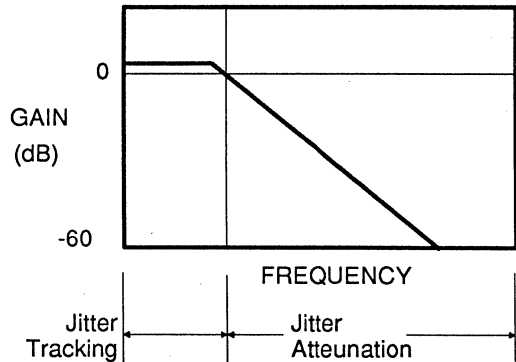
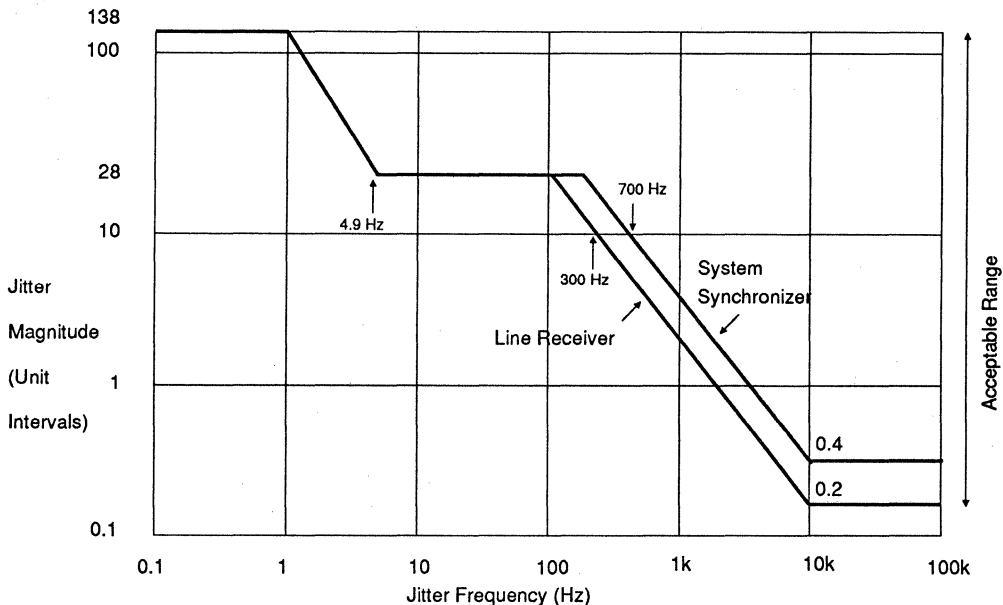

Figure 6 - Jitter Transfer of PLLs
Figure 8 - 1990 AT&T 62411 Jitter Tolerance Requirement
- 4) Excessive Input Jitter amplitude (Figure 8).
Due to the characteristics of the phase-lock loop technology used in trunk cards and system synchronizers, jitter can be more readily filtered than can wander (Figure 6). Normally, most wander which is input on a timing reference source will be relayed to all downstream systems.
Input Jitter Tolerance: Jitter tolerance is specified for both the T1 trunk card and for the synchronizer. In fact, the tolerance requirements are more stringent for the synchronizer than the line card. The more stringent specifications ensure that the synchronizer, which is a critical system element, is extremely robust. The tolerance curves are shown in Figure 8.
The $193 + 138 = 331$ bit-length requirement applies to frame buffers making controlled frame slips. The goal is to have frame slips occur only as a result of long term frequency offsets, not due to jitter (wander). However, only 138 bits are required in a jitter (hysteresis) buffer that does not perform frame slips. In this case, the FIFO depth requirements are defined by the buffer length necessary to tolerate the jitter (wander) without overflow/underflow. The exact length needed to meet the requirements of Figure 8 depends upon the jitter transfer function of the PLL (Figure 6). The PLL will track jitter at low frequencies, and requires a FIFO long enough to contain the maximum input jitter amplitude possible in the jitter attenuation range.